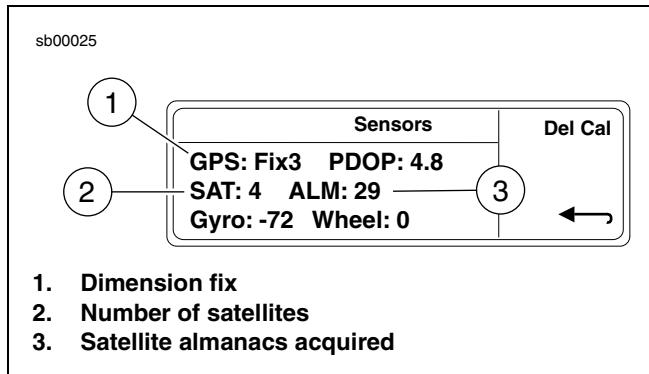

Figure 5. NAV Setup/Sensors Display
6. See Figure 5. The navigation module has acquired a 3-D fix when the display indicates:
- GPS: Fix3 (1)**
- SAT: 4 (2)**
- ALM: 24 (3) (or greater).**